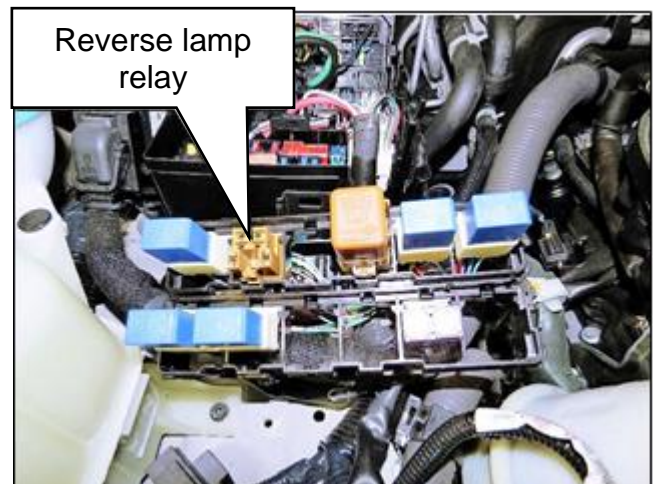

Figure 13
- Figure 13 shown with relay removed